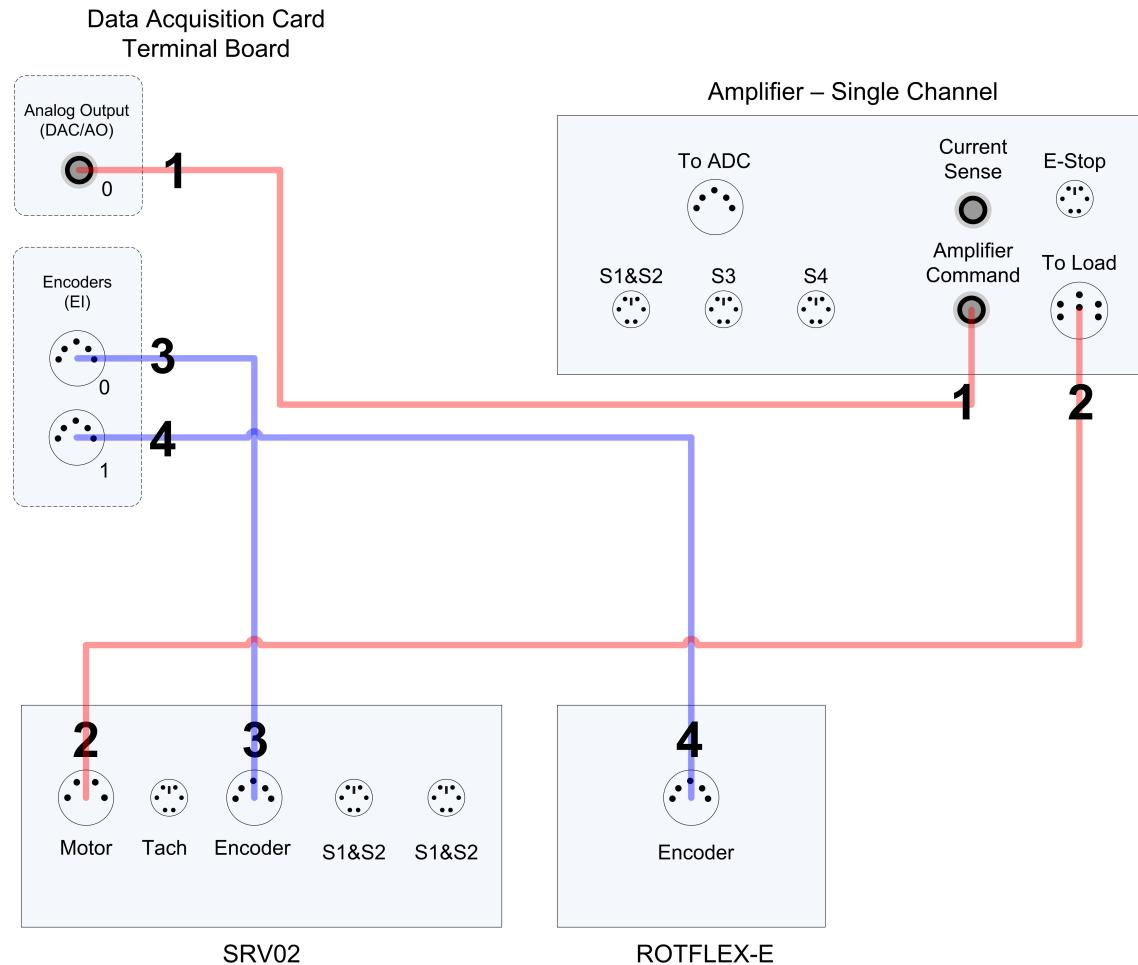

Figure 5.1: ROTFLEX system connections diagram
This section describes the typical connections used to connect the Quanser Rotary Flexible Joint system to a data acquisition device and a single-channel power amplifier. The connections are given in Table 5.2 and illustrated in Figure 5.1. The connection procedure details is given below as well.
3. Connect one of the connectors on the 2x RCA to 2x RCA cable from the *Analog Output Channel #0* on the terminal board to the *Amplifier Command Connector* on the Quanser amplifier. See cable #1 shown in Figure 5.1.
4. Connect the 4-pin-stereo-DIN to 6-pin-stereo-DIN from *To Load* connector on the amplifier to the *Motor* connector on the SRV02. See connection #2 shown in Figure 5.1. The cable transmits the amplified voltage that is applied to the SRV02 motor.
5. To use the encoder to measure the load gear angle connect the 5-pin-stereo-DIN to 5-pin-stereo-DIN cable from the *Encoder* connector on the SRV02 panel to *Encoder Input Channel #0* on the terminal board, as depicted by connection #3 in Figure 5.1. This carries the load shaft angle measurement by the encoder.
6. Connect the connector on the ROTFLEX directly to *Encoder Input Channel #1* on the terminal board, as depicted by connection #4 in Figure 5.1. It carries the arm angle measured by the encoder.